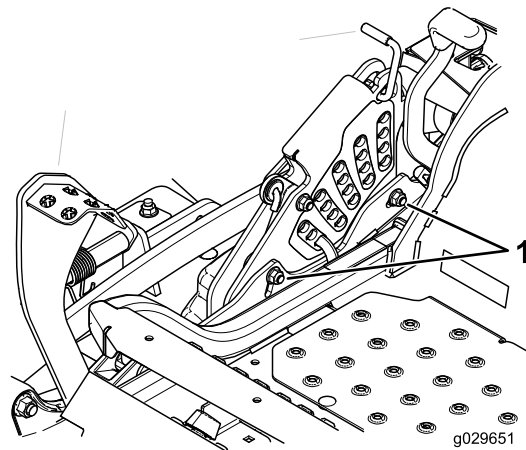

Figure 94
12. To adjust the single point system, loosen the 2 bolts at the bottom of the height-of-cut plate. Refer to Figure 94.
14. Torque the 2 bolts at the bottom of the height-of-cut plate (Figure 94) to 37 to 45 N·m (27 to 33 ft-lb).